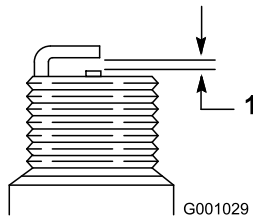

Figure 21
4. Set the gap between the electrodes on a new spark plug at 0.76 mm (0.030 inch) (Figure 21).